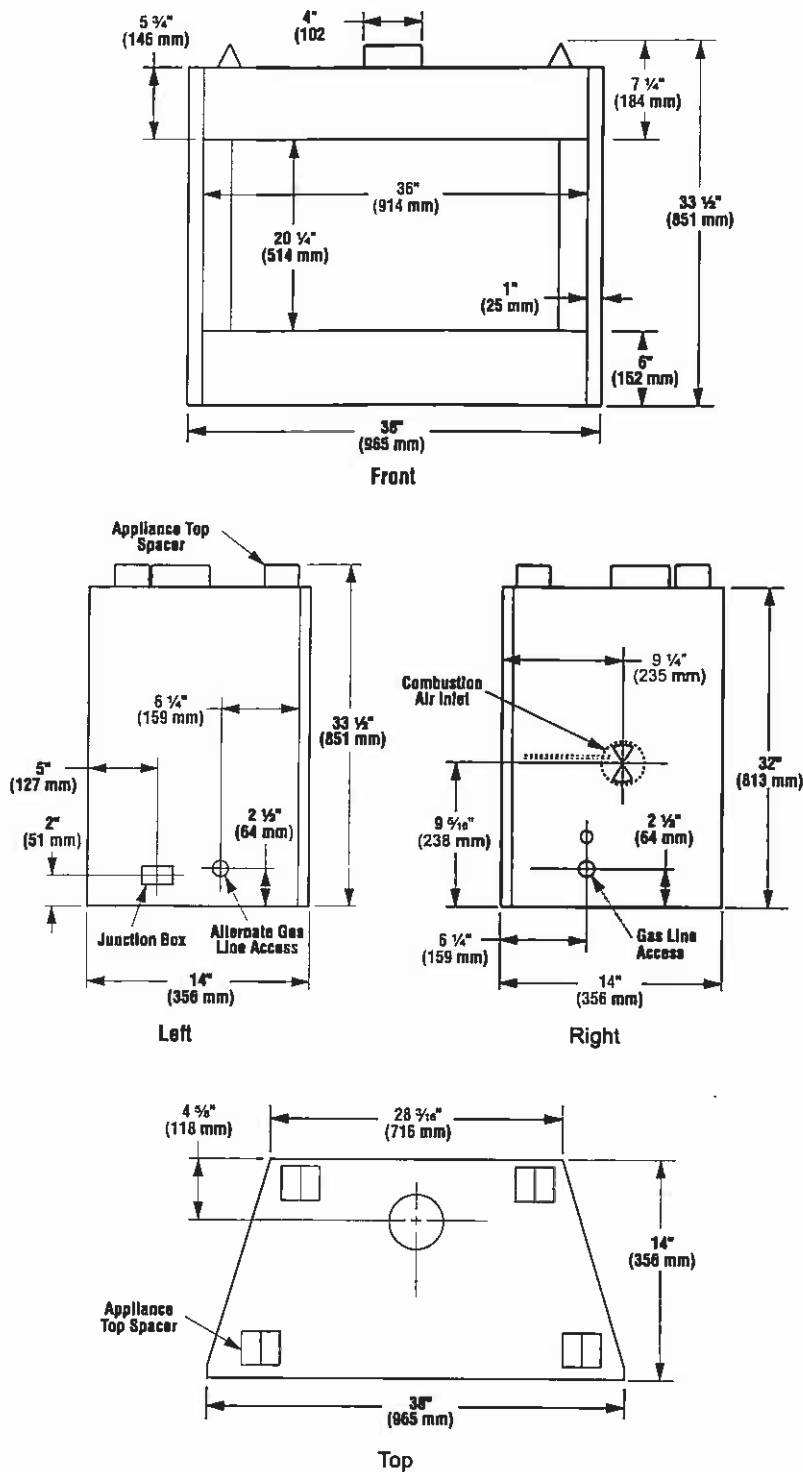

Figure 2
**IMPORTANT: UNDER NO CIRCUMSTANCES CAN THE FIREPLACE TOP SPACERS (FIGURE 2) BE REMOVED OR MODIFIED, NOR MAY YOU NOTCH THE HEADER TO FIT AROUND OR BE INSTALLED LOWER THAN THE SPACERS. THE HEADER MAY BE IN DIRECT CONTACT WITH THE TOP SPACERS BUT MAY NOT BE SUPPORTED BY THEM.**